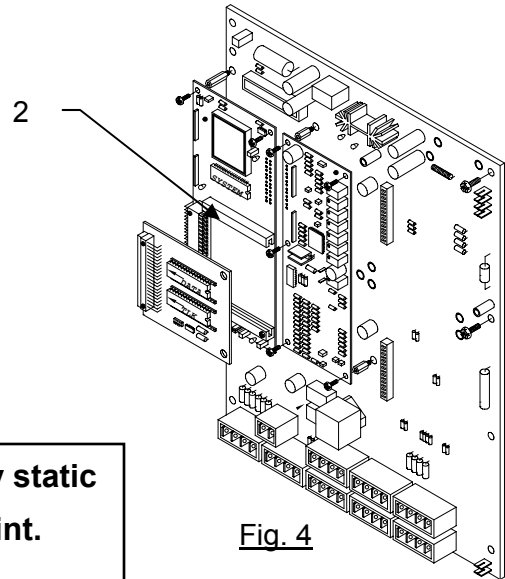

Fig. 4
2. Remove system software and replace with (GGMT V2.0) system software eprom. (Fig.4)